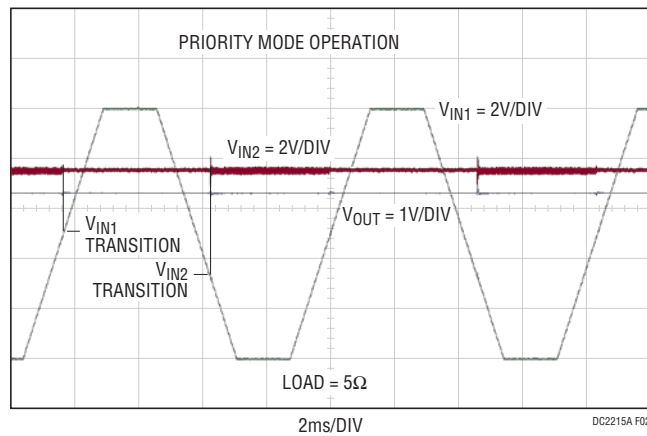

Figure 2. Demonstration of Priority Operation Where the Source of the Converter's Power Is Switched to V_{IN1} When V_{IN1} Exceeds the Preset Threshold
10. Set V_{IN2} to 7.5V and turn on V_{IN1} slowly increasing the V_{IN1} voltage from 0V to 10V. Note that V_{IN1} starts to supply the power as the voltage of V_{IN1} exceeds its turn on set point of 4.3V (see Figure 2).
11. By adjusting the voltage on V_{IN1} from 10V to 0V and back the converter operates from V_{IN1} while V_{IN1} is above approximately 4.3V and when V_{IN1} is below approximately 4.2V it operates from V_{IN2} . (See Figure 2).